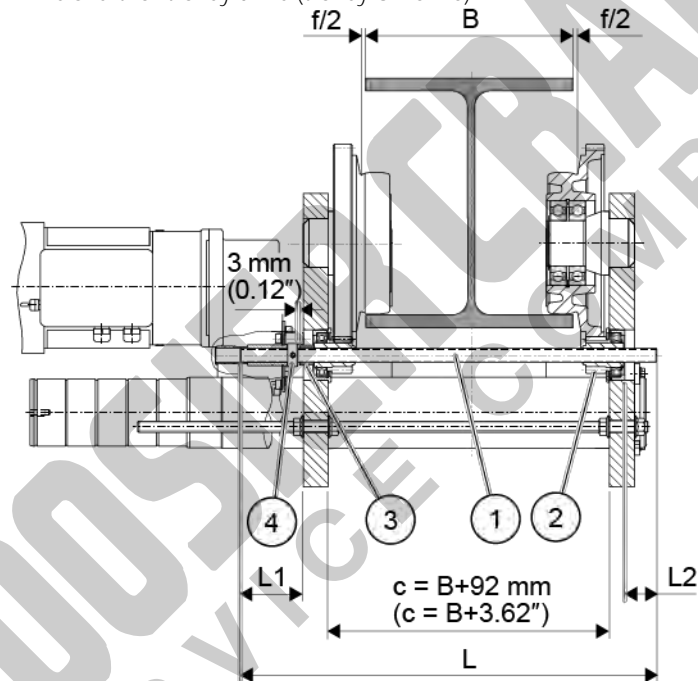

Fig. 19
3. Use connecting bolt and drive shaft suitable for beam range **"B"** (for dimensions, see Fig. 19).